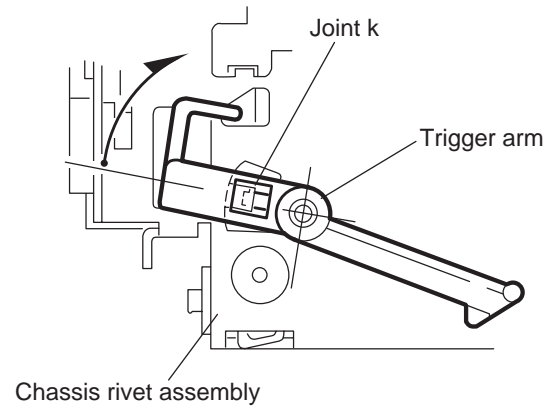

Fig.19
3.2.9 Removing the trigger arm (See Figs.19 and 20)